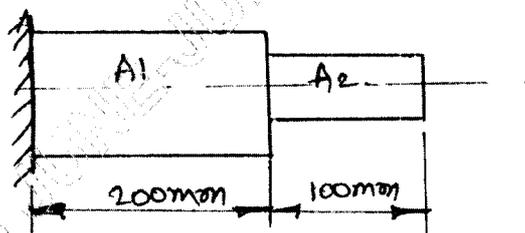

Fig.Q10(b)
- b. For the stepped bar shown in Fig.Q10(b) determine the eigen values and eigen vector. Take  $A_1 = 400 \text{ mm}^2$ ,  $A_2 = 200 \text{ mm}^2$ ,  $\rho = 7850 \text{ kg/m}^3$ ,  $E = 200 \text{ GPa}$ . (10 Marks)